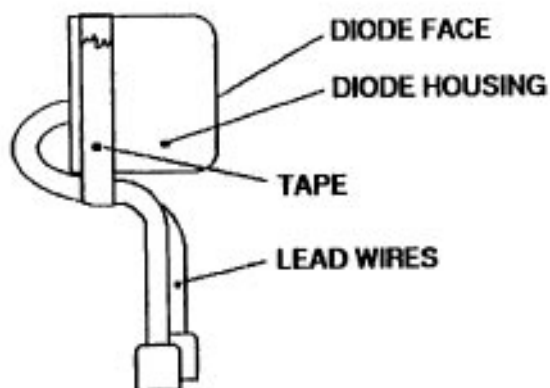

FIGURE 3-7
1. Install tape around the new lamp and lead wires (67 and 27). (see figure 3-7) Placing the tape around the lead wires enables the installer to keep the lamp in the proper position during installation.